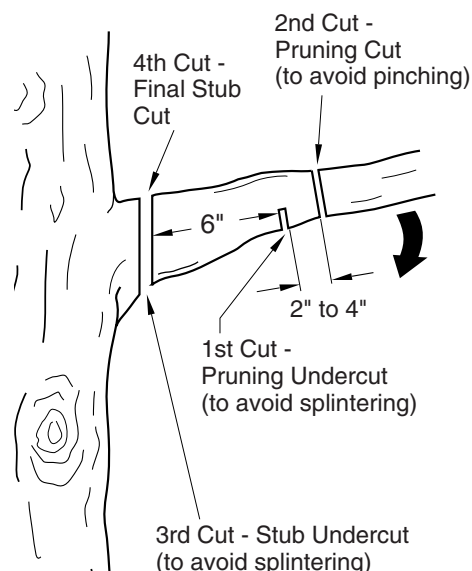

Figure 16 - Cutting A Limb
1. Make first cut six inches from tree trunk on underside of limb. Use top of guide bar to make this cut. Cut 1/3 through diameter of limb (see Figure 16).